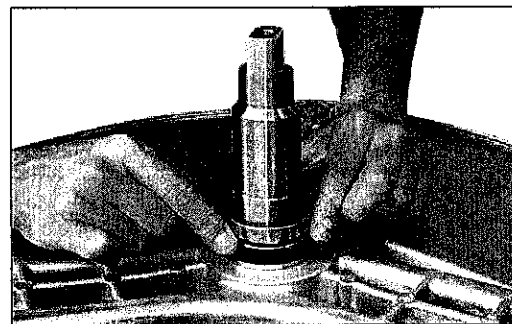

fig. 29
- Place the new V-ring seal on the bottom of the ring seal, pressing lightly with the fingers. (fig. 29).